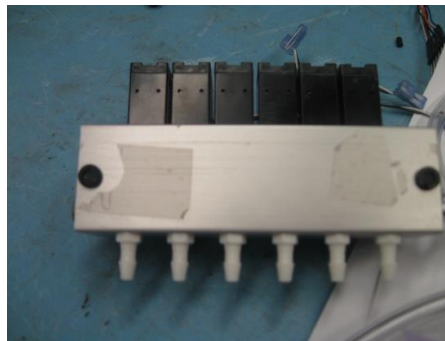

Figure 5
- 2.13. Glue (4) 1/16" fiber washers (20000-0000-01) to the manifolds as shown in Figure 5.